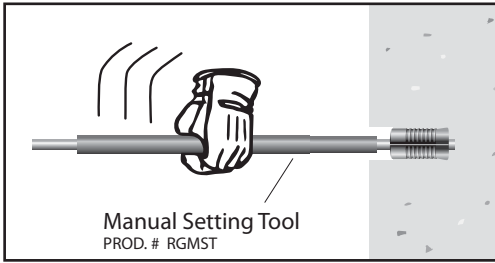

Figure 4.
STEP 5a: Manual (See Figure 4)